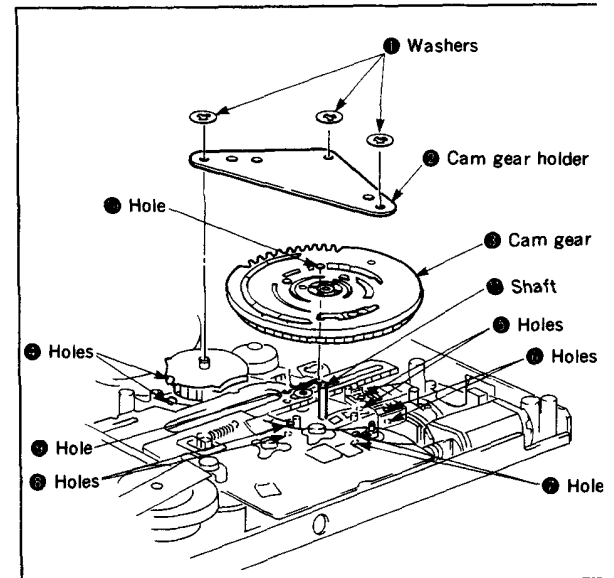

Fig. 3-36.
**3-30. CAM GEAR (Fig. 3-36)**
- 1) Remove the three washers 2 ①, then pull out the cam gear holder ②.
- 2) Pull out the cam gear ③.
- Match up the right loading gear ass'y, the tension regulator arm, the S take-up arm, the work wheel, the brake and the mode slide plate with respective holes ④ to ⑨ the chassis in that order.
- Match up the hole ⑩ on the mode slide plate with the hole ⑪ in cam gear ③.
- Apply 1/2 drop of lubricant to the shaft ⑫.